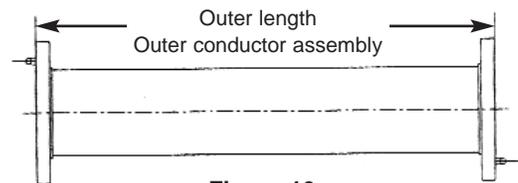

Figure 10
1. Determine the required length of the outer conductor flange to flange (Figure 10).
1. Determine the required length of the outer conductor flange to flange (see Figure 10).